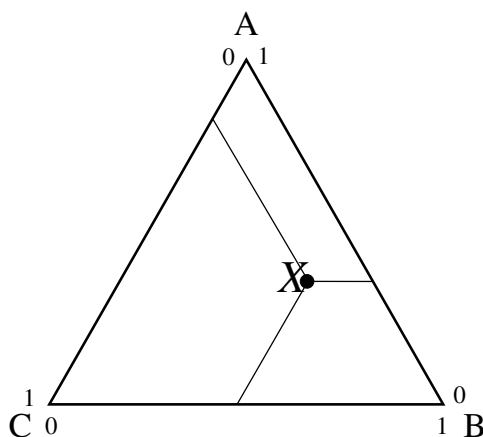

Figure 3: Example ternary phase diagram at chosen P and T .
- b) A ternary phase diagram is often drawn for constant pressure and temperature. In such a diagram, each side of the equilateral triangle represents the mole fraction of one of the three components. Show that for each point *X* in such a diagram (like in figure 3) the following equation is valid